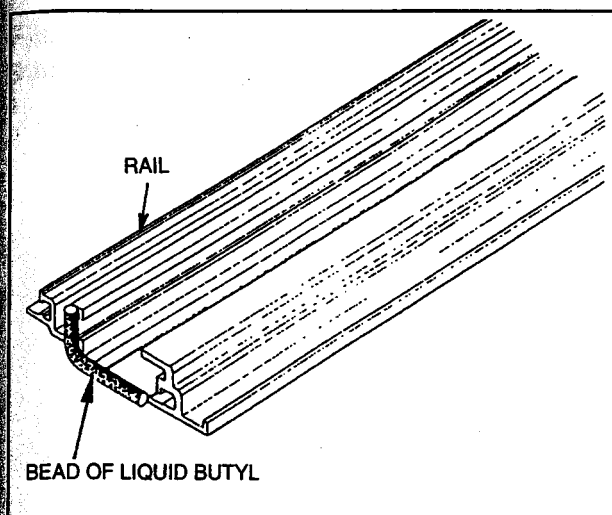

Fig. 15 - Application of Liquid Butyl.
13. Apply a bead of liquid butyl (Fig. 15).